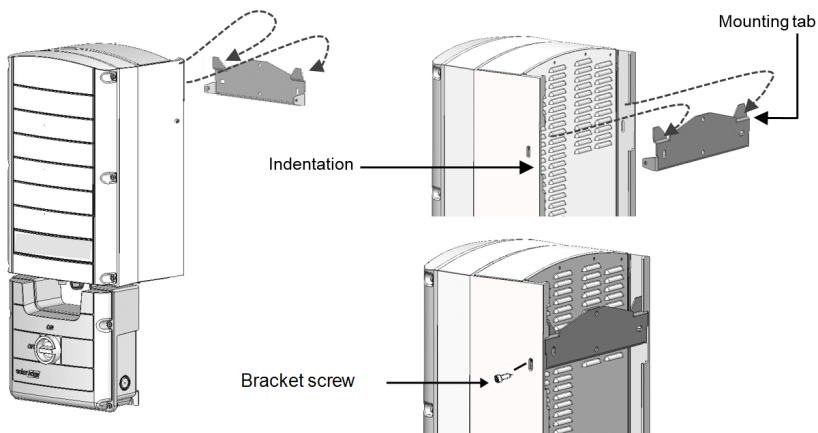

Figure 16: Hanging the inverter on the bracket
- Ensure that the flat edge of the bracket is at the bottom, as in *Figure 16*.
5. Hang the inverter on the bracket (see *Figure 16*): Lift the inverter from the sides, or hold it at the top and bottom of the inverter to lift the unit into place. Do not lift holding the Safety SwitchDC Safety Unit as it may be damaged.
8. Insert the two supplied screws through the outer heat sink fin on both sides of the inverter and into the bracket (see *Figure 16*). Tighten the screws with a torque of 4.0 N*m / 2.9 lb.*ft.